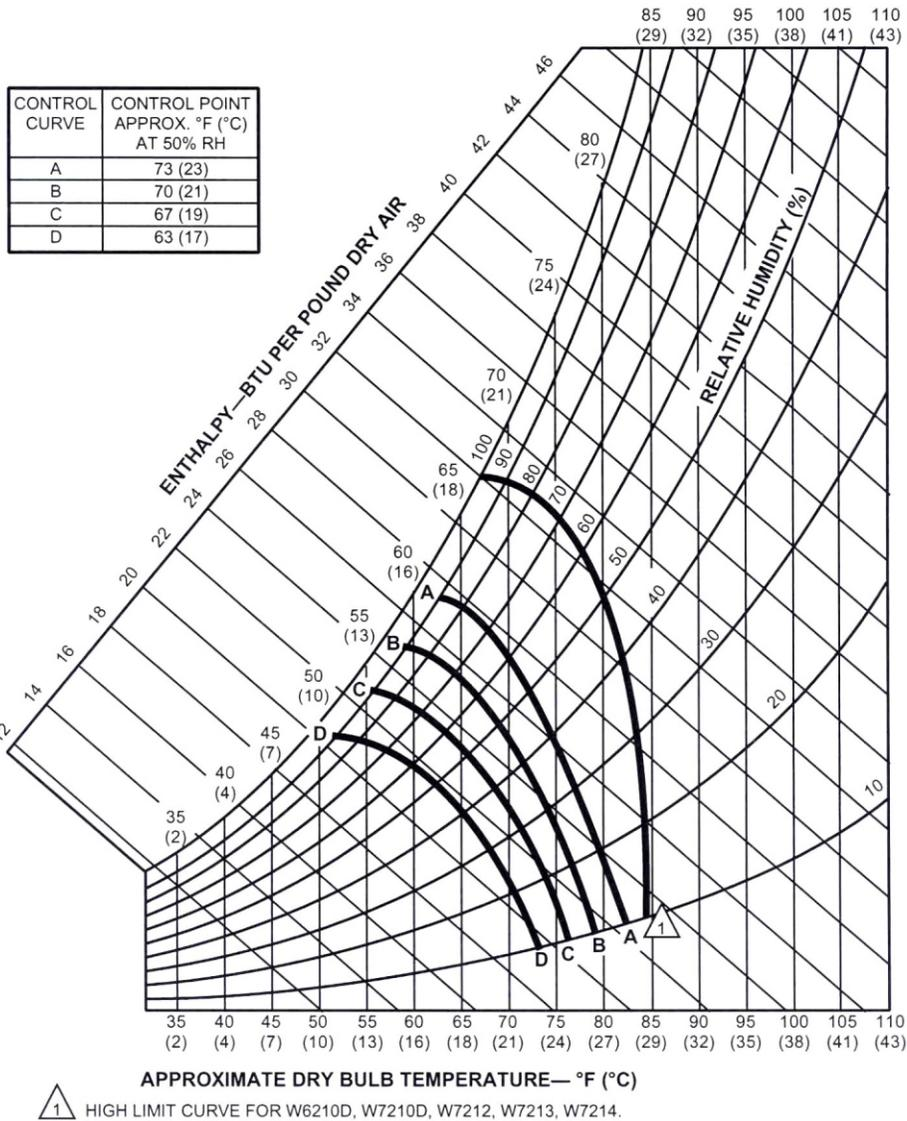

Figure 6
8. Set the outdoor air enthalpy change overpoint. **Refer to Figure 6** and the instructions on **Page 4**.
The enthalpy control senses both temperature and humidity or the heat content of the outside air. It controls the amount of outdoor air brought into the system. When the heat content of the outside air is below control setpoint, the control modulates outdoor dampers to meet cooling needs of the building. When the heat content rises above control setpoint, the control closes outdoor dampers to minimum position. The recommended setpoint is "A". If Economizer is allowing air which is too warm or too humid to enter the system, control may be changed to a lower setpoint (B, C, or D). Refer to Figure 6.